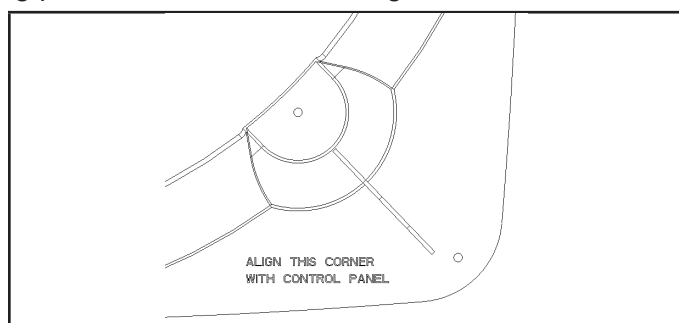

**FIGURE 3. Control Panel Alignment Indicator
- 1 - Remove all four (4) grille screws.
- 2 - Position the snow guard bottom (Item 2) on the grille with the Control Panel Alignment Indicator (figure 3) aligned to control panel.
- 2 - Assemble (4) snow guard standoffs in all grille hole locations.
- 3 - Position the snow guard bottom (Item 2) on the grille with the Control Panel Alignment Indicator (figure 3) aligned to control panel. Align the holes with the snow guard standoffs.